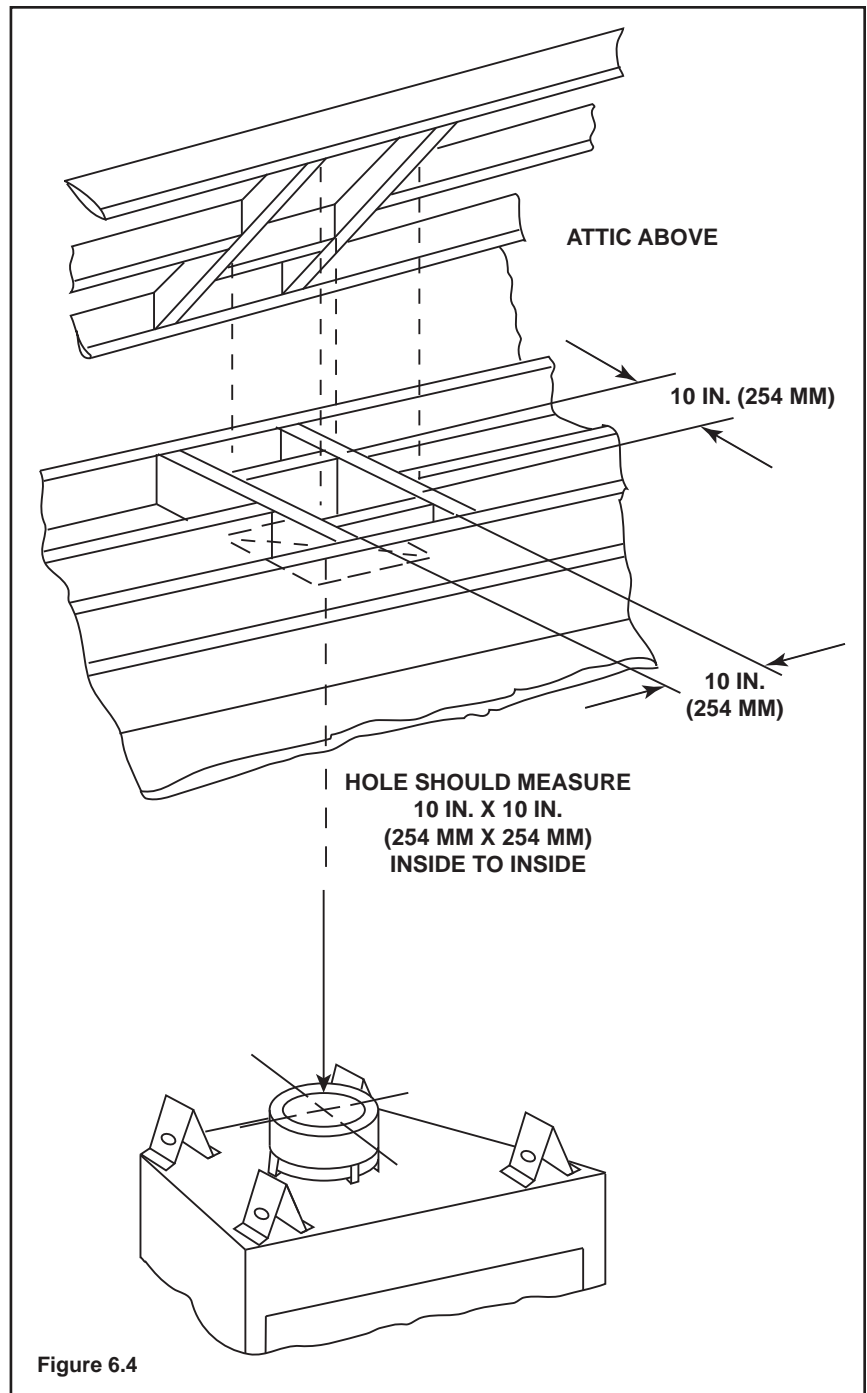

Figure 6.4
- Frame an opening 10 inches by 10 inches whenever the vent system penetrates a ceiling/floor (see Figure 6.4).